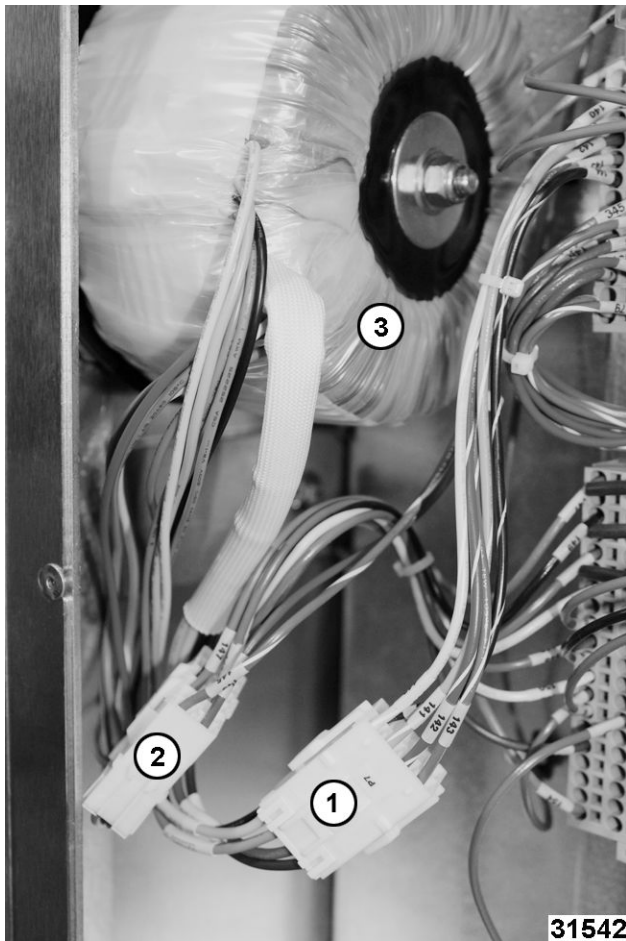

Fig. 64
2. Disconnect plugs P7 (1, Fig. 64) and P8 (2, Fig. 64) going to transformer (3, Fig. 64).